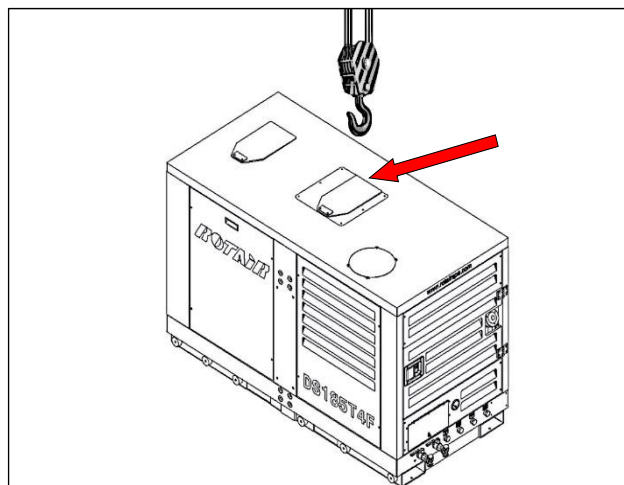

Figure 6.2.1 Lifting system of the machinery
- 3) Attach the hook of the lifting device to the hooking point of the compressor (Figure 6.2.1).